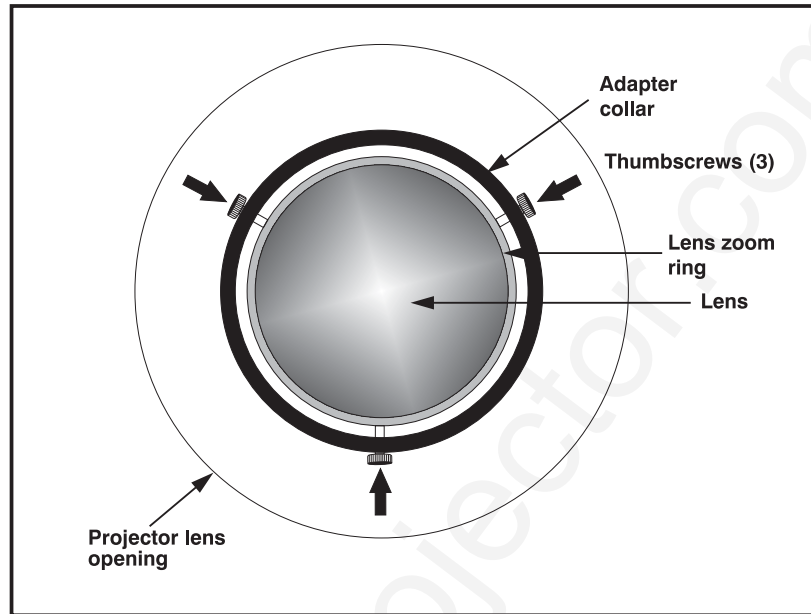

Figure 4.13. Tighten 3 thumbscrews equally
NOTE: To remove a motorized zoom lens, loosen the 3 thumbscrews securing the zoom adapter collar around the perimeter of the lens (see Figure 4.13). Then unscrew the lens and pull out the adapter collar.
- g) Gradually tighten the 3 thumbscrews equally, taking care to keep the adapter collar and lens centered with one another (Figure 4.13). The adapter collar should be securely attached to the lens when you are done, enabling the lens to move with [Lens] adjustments.